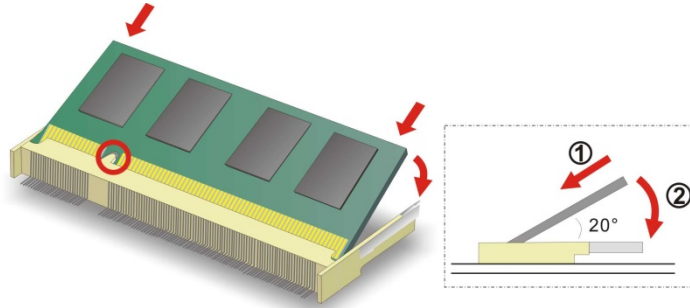

Figure 4-1: SO-DIMM Installation
To install a SO-DIMM, please follow the steps below and refer to **Figure 4-1**.
- Step 3:** Insert the **SO-DIMM**. Push the memory in at a 20° angle. (See Figure 4-1)
- Step 4:** Seat the **SO-DIMM**. Gently push downwards and the arms clip into place. (See Figure 4-1)